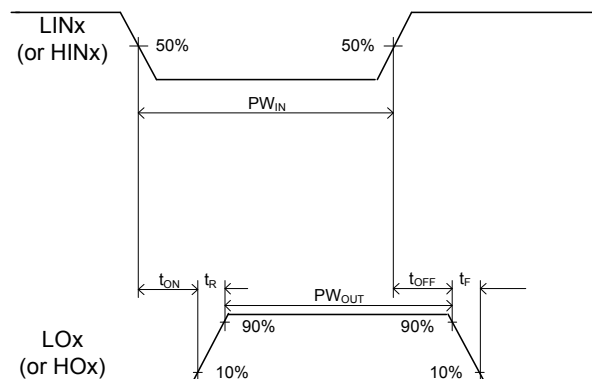

Figure 3: Switching time waveforms (IRS2336(D))
The relationship between the input and output signals of the IRS2336(D) and IRS23364D are illustrated below in Figures 3 and 4. From these figures, we can see the definitions of several timing parameters (i.e., PW_{IN} , PW_{OUT} , t_{ON} , t_{OFF} , t_R , and t_F) associated with this device.